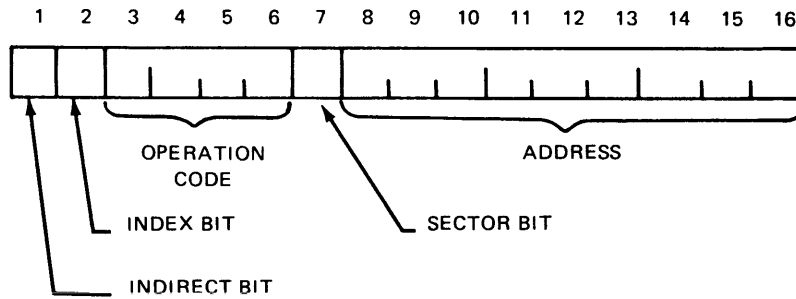

Figure 2-6. Memory Reference Instructions
There are four classes of instructions; Memory Reference Instructions (MR), Shift Instructions (SH), Input/Output Instructions (IO), and Generic Instructions (G). Figures 2-6 through 2-9 show the bit format of each class. Bits 3 through 6 of the instruction word identify the type of instruction as shown in Table 2-1.
Memory Reference.—Figure 2-6 shows the format of memory reference instructions. Bit 1, the indirect bit, = 1 whenever an indirect memory reference is specified. Bit 2, the index bit, = 1 whenever indexing is specified as part of address formation. The operation code bits allow 14 different memory reference instructions to be specified. The other two configurations of these four bits escape to other format interpretations. (See Table 2-1.)